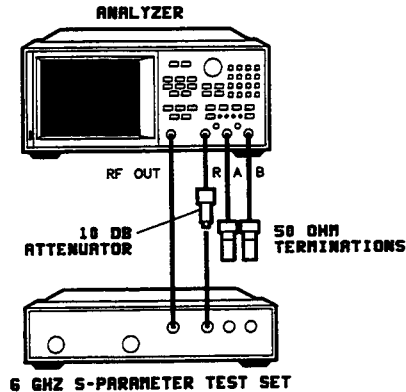

Figure 5. 6 GHz Noise Level Test Setup
1. Connect the equipment as shown in Figure 5. Press **[PRESET] [FREQ RANGE 6 GHZ]** to set the frequency range to 3 MHz to 6 GHz with a default 3 kHz bandwidth. Press **[MEAS] [INPUT PORTS] [A] [FORMAT] [LIN MAG] [SCALE REF] [AUTO SCALE]** to format the A input.